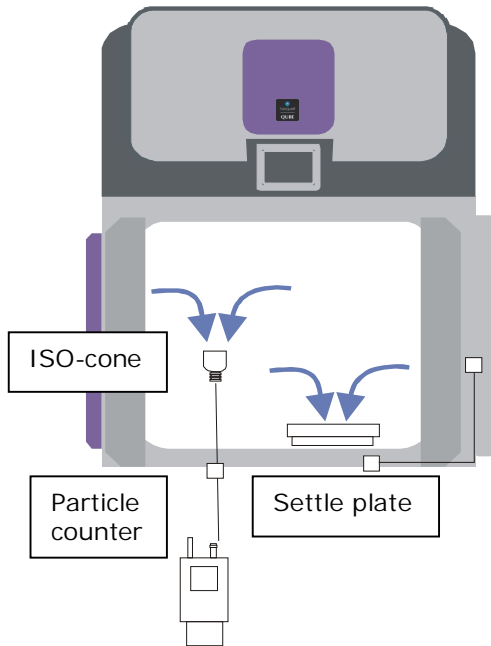

Figure 8: Level 1 Environmental Monitoring System Diagram
- Settle plates and other alternative monitoring methods may be adequate, as shown in Figure 8.